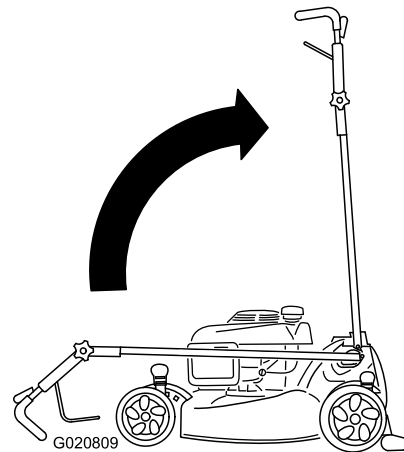

Figure 39
2. Move the handle to the upright position (Figure 39).